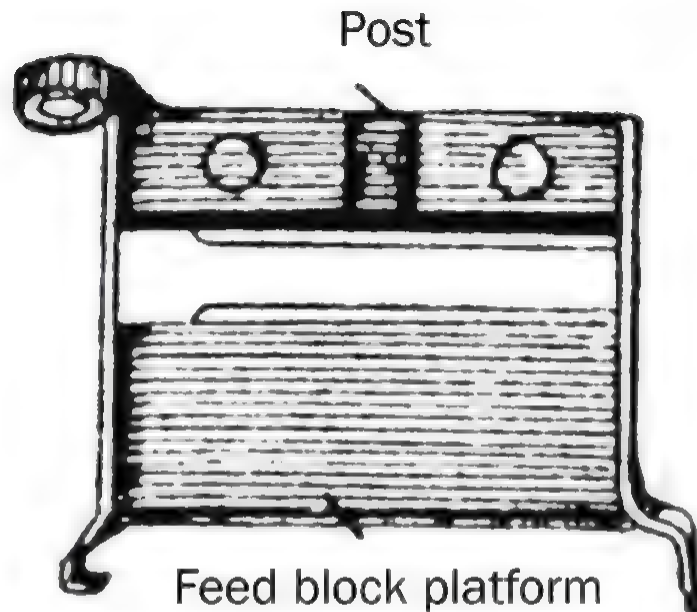
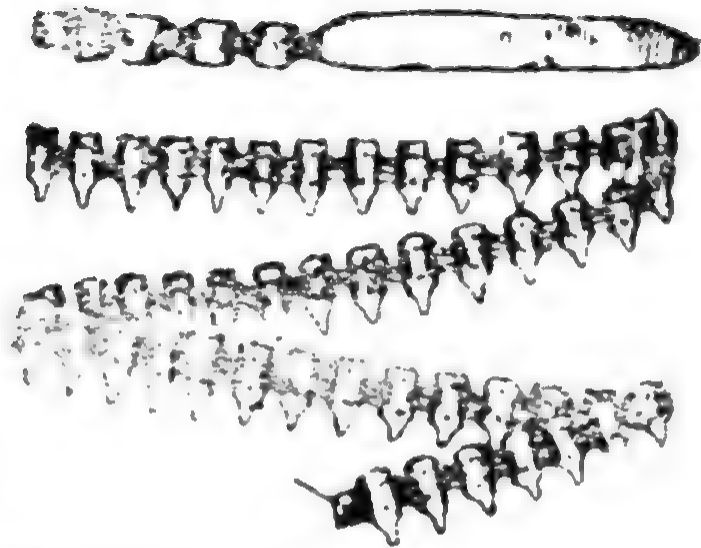

Figure 74. Lower part of feed-piece for belt-fed operation (no drum feed).
Figure 77. 50-round capacity belt.
**Loading the belt-fed machine-gun** Make sure that the belt-feeding lid and the lower part of the belt-feeding piece are in place – the machine-gun will not fire without them (figures 74 and 76). Put the cartridges into the belt. Insert each cartridge into a link so that the cartridge slides into the link ring in the cartridge belt and holds it. You can connect another belt to the belt loaded into the machine-gun. To do this – remove the cartridge from the first link of the belt you want to connect. In that link insert the end piece of the last link from the belt in use and then replace the cartridge. If you do not have a 250 cartridges capacity belt you can make one out of shorter belts (figure 77).